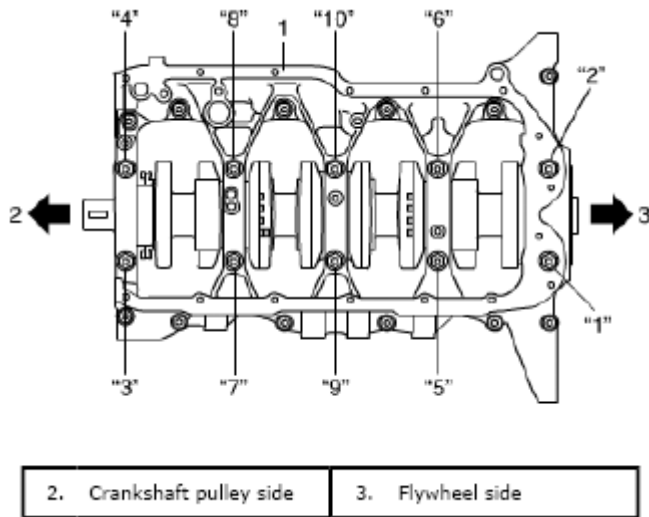

Fig. 177: Identifying Loosening Sequence Of Crankcase Bolts
- b. Loosen bolts ((1) - (10)) until tightening torque is reduced to 0 according to numerical order in **Fig. 177**.